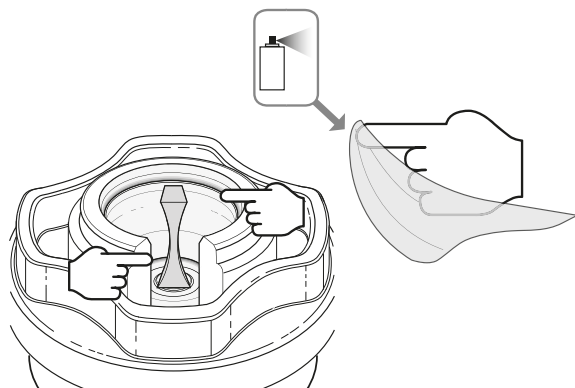

Fig. 47 Applying degreaser
- The outside surfaces, inner surfaces, and rotating section of the quick connect coupling (Fig. 47).